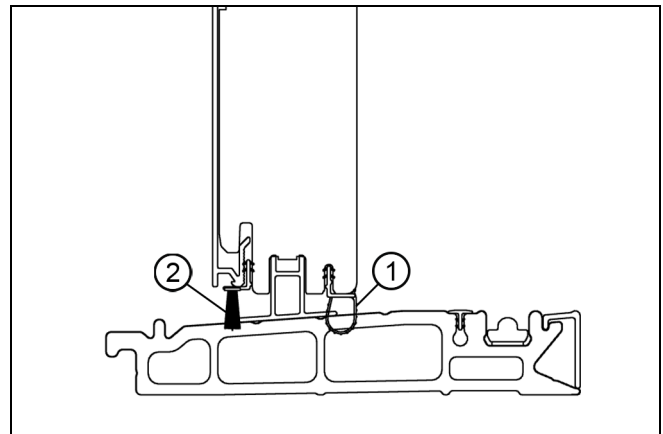

Figure 14
2. On exterior stationary panels, insert the barbed side of the bulb weatherstrip into the kerf on the interior side of the panel. On the exterior side of the panel, insert the barb on the pile weatherstrip into the kerf on the bottom of the panel. See Figure 14.